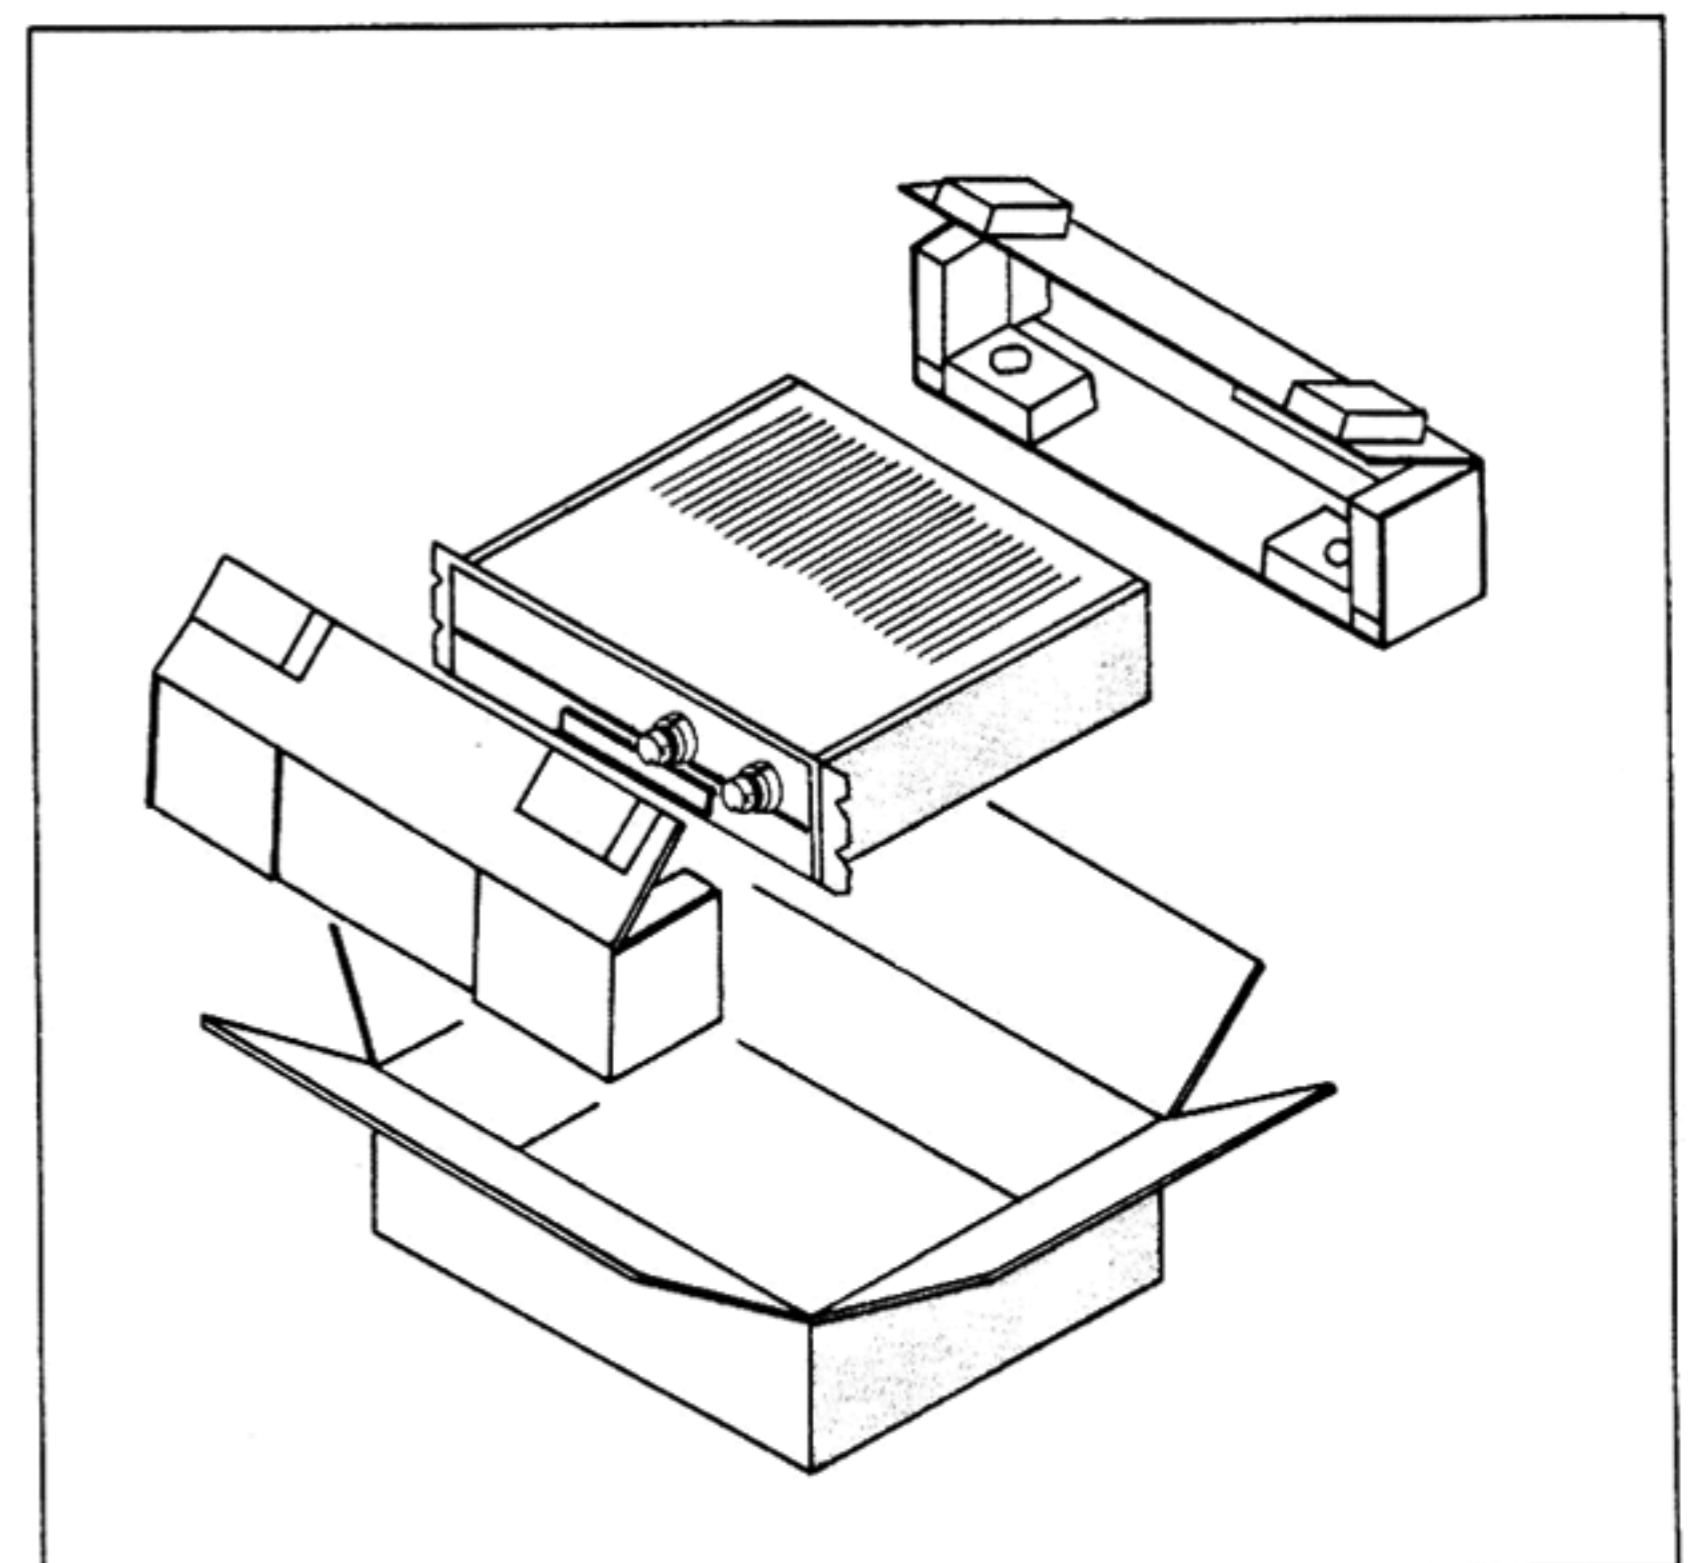

Figure 3. Packing Instruction
- a. Pack the unit carefully, using the original material as shown in Figure 3.